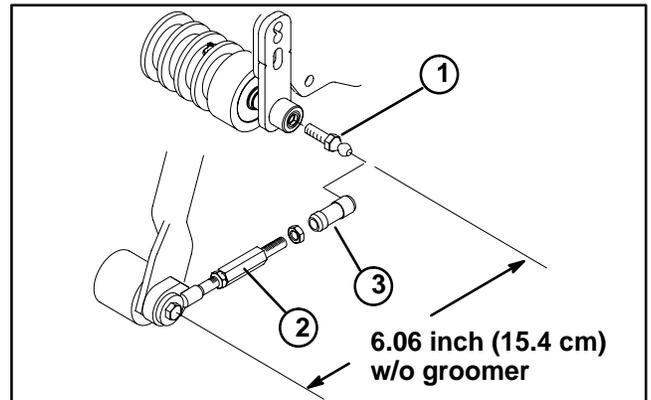

Figure 37
5. Slide sleeve back on each ball joint receiver. Remove receiver from each unit's ball studs (Fig. 37).
6. For the front cutting units, slide cutting unit lift roller off the lift arm while siding the cutting unit from the pull frame (Fig. 37).
2. Make sure ball studs are threaded into each end of the cutting unit front roller (Fig. 37).
5. Slide sleeve back on each ball joint receiver and hook onto cutting unit ball studs (Fig. 37).